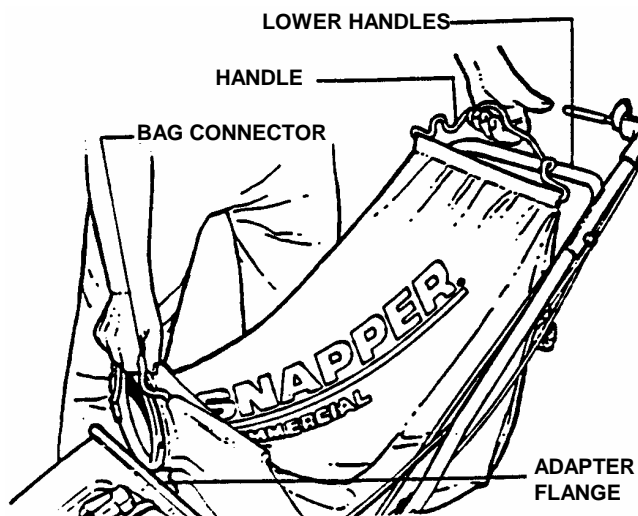
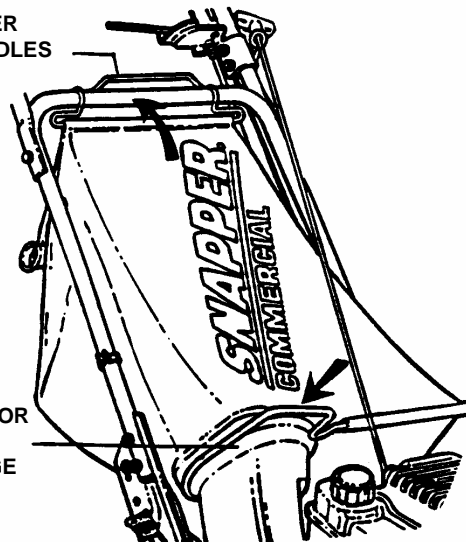

FIGURE 2.8
FIGURE 2.9
Position grass bag between handles. See Figure 2.8. Install grass catcher by sliding connector over flange of adapter. Attach grass bag hooks over middle handle cross bar. See Figure 2.9.
1. Grasp bag connector and bag handle as shown. See Figure 2.8.